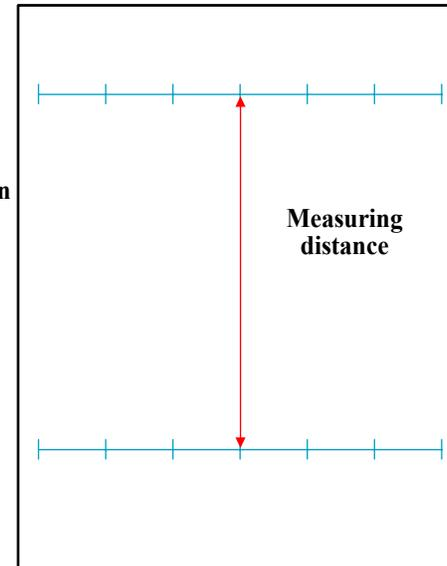

Figure 5-67. Adjustment Pattern
4. Measure the distance as shown in Figure 5-67.
- Measure the distance as shown in Figure 5-67.